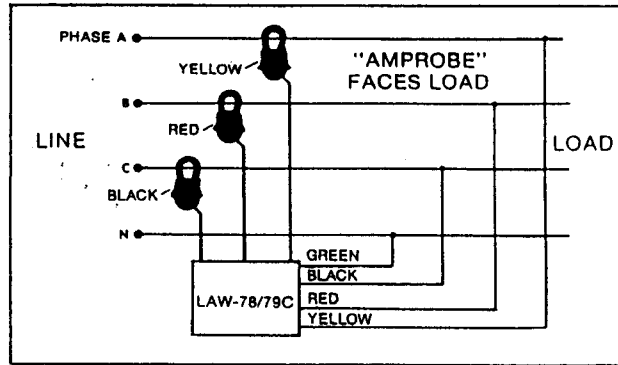

FIG. 9 For 4-wire, three phase systems
4. Follow Steps 3 through 8 of "How To Use As A Recorder" and connect as shown in appropriate Fig. 9, 10, 11, or 12.